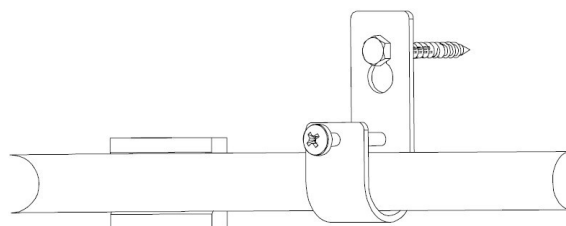

Fig.5
3. and secure using the screw supplied. (**Fig. 5**)